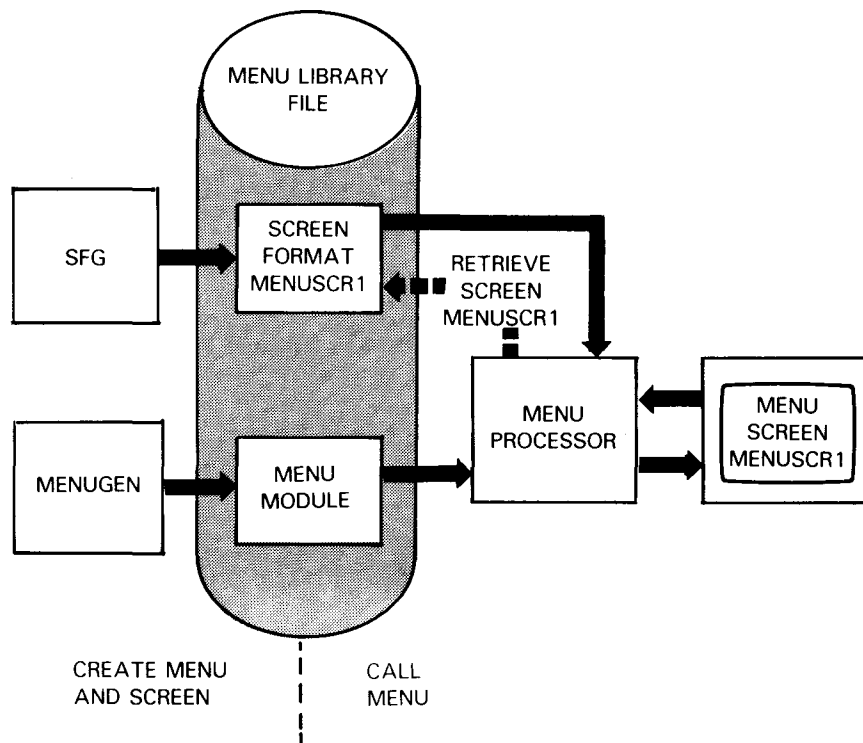

Figure 3-1. Creating and Using an SFG-created Menu Screen
To use a previously defined screen format as your menu screen, you choose item 2 in screen 3-4. Then, when your menu is called, the menu processor determines that this screen resides outside the menu module. The menu screen can be in \$Y\$FMT or in another menu library file if that's where your menu is located. Wherever the screen is, the menu processor retrieves and displays it as your menu screen. Figure 3-1 outlines the process for the case where both menu module and menu screen reside on a user library file.